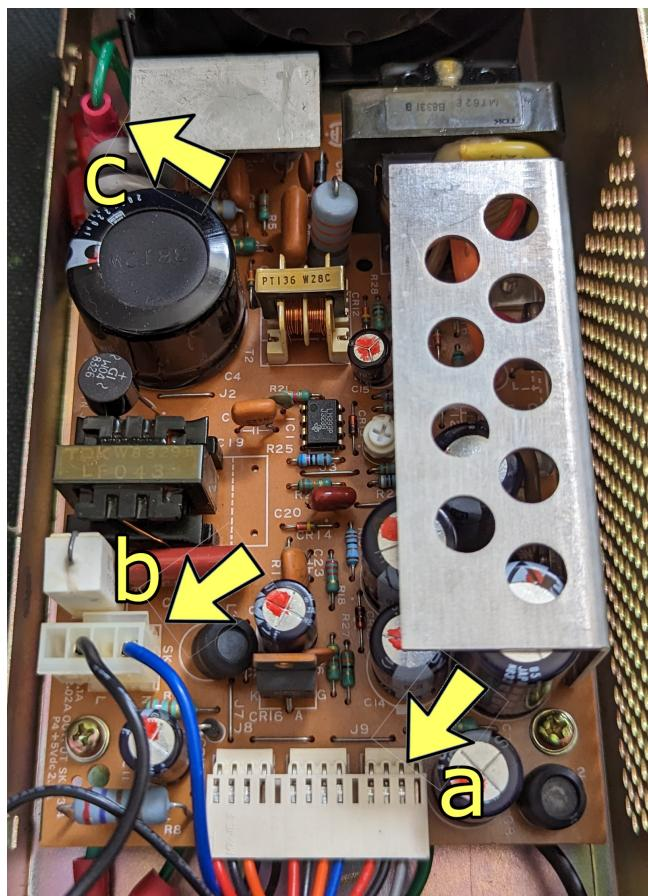

Figure 4.1: PSU connector positions.
3. Disconnect the motherboard (a), mains (b), and ground (c) connectors, as shown in Figure 4.1 below.